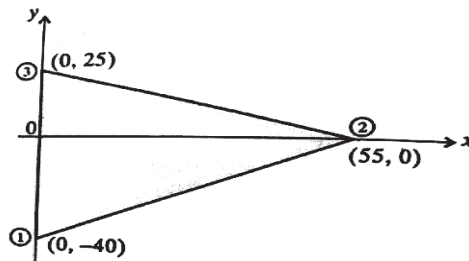

fig. 1a
**Q1) a)** Evaluate the stiffness matrix for the CST element shown in fig. 1a. Coordinates are in mm. Assume Plain stress conditions. Take  $E = 200$  GPa,  $\nu = 0.3$ , Thickness = 1cm **[15]**